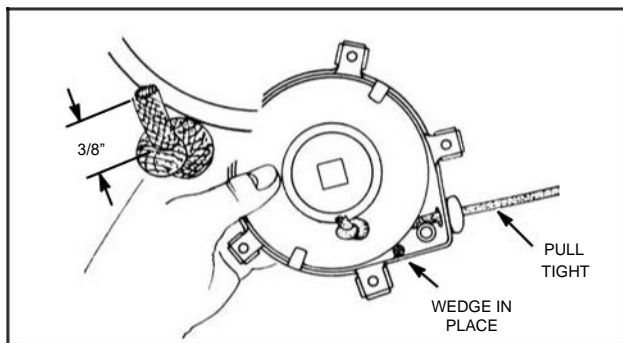

Fig. 595 – TIGHTENING KNOT
14. Remove wire and tie a single knot at end of rope, Fig. 594B. Pull rope tight. Use a block of wood and compress knot until it extends not more than 13/31" above face of pulley, Fig. 595.